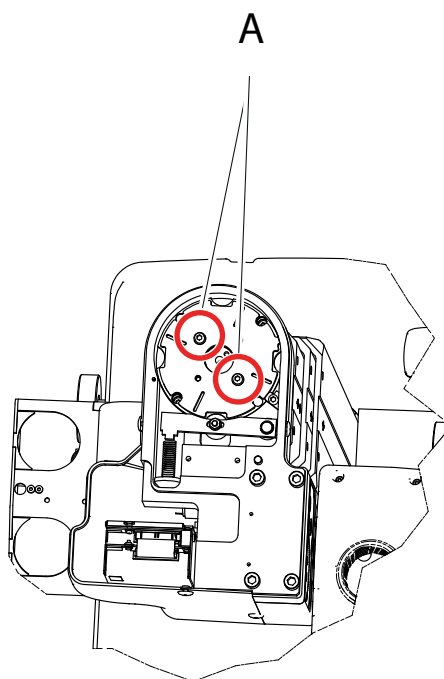

Fig. 5-109
8. Unscrew the bolts (A), see Fig. 5-109
10. Fasten the bolts (A) in desired position for the end stop (4 different positions are possible).